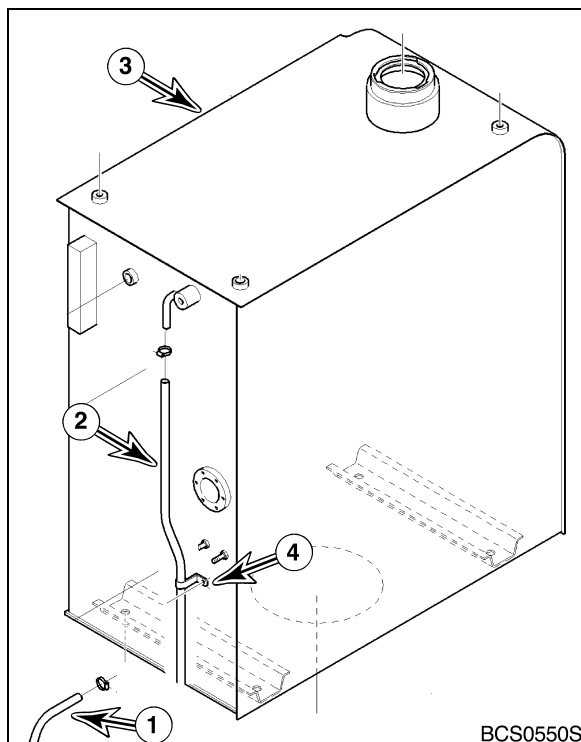

Figure 7
14. Tag and disconnect fuel supply line (1, Figure 7) and fuel return line (2) from the tank (3) and carefully drain remaining fuel from the lines.
15. Remove clamp (4, Figure 7) holding fuel return line (2) to tank (3).